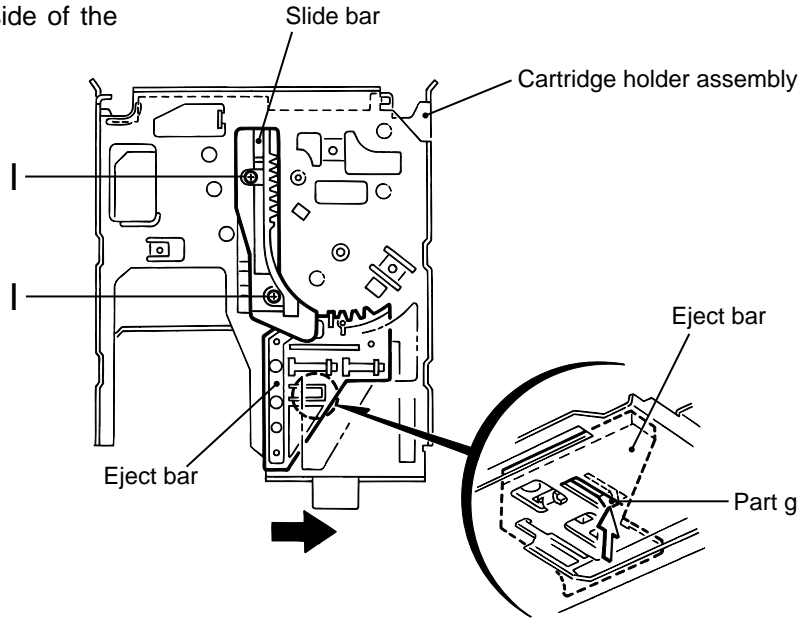

Fig.14
### ■ Removing the cartridge holder assembly (See Fig.14 and 15)
### ■ Removing the slide bar and the eject bar (See Fig.14 and 15)
2. Move the eject bar outward until it stops as shown in Fig.14. Push the convex part g on the bottom of the body and remove the eject bar from the chassis.